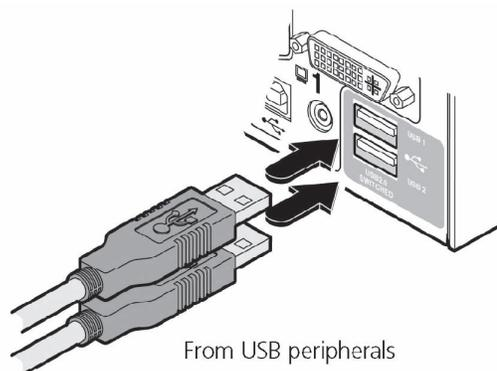

FIGURE 3-3. CONNECTING USB PERIPHERALS TO THE USER CONSOLE
3. USB devices. Where required, attach the leads from your USB peripherals to the USB sockets labeled USB1 and USB2. These sockets provide enumerated (transparent) switching. See Figure 3-3.